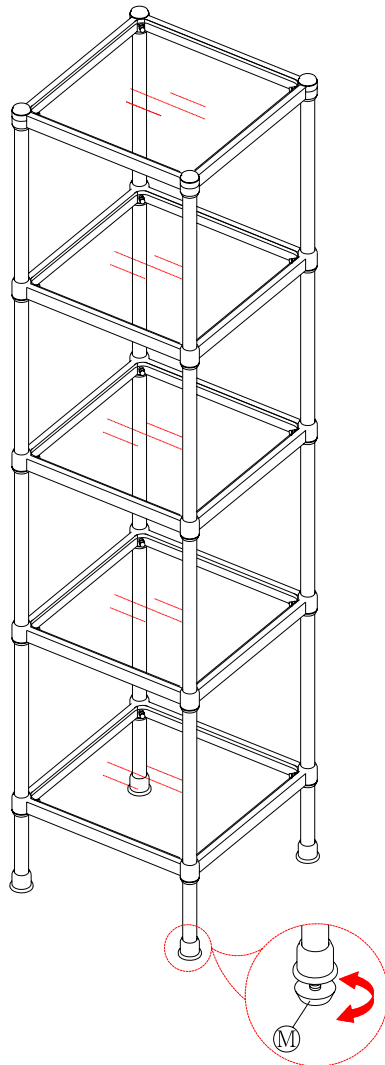

Fig. 6
8. If the floor is uneven, adjust the recessed levelers underneath the legs. To do this, carefully grasp one side of the étagère and elevate it slightly to provide access to the levelers. Turn the levelers until adequate contact is made with the floor. Carefully set the étagère down. Repeat until the étagère is level and stable (Fig. 6).